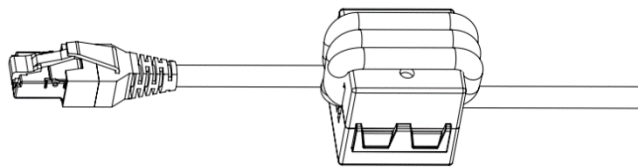

Figure 3.1.2 Installation method for magnetic ring
- For installation method, it is recommended to thread the cable through the magnetic ring and repeatedly wind it for 3 or more turns to increase the area through the magnetic ring, as Figure 3.1.2 shows.